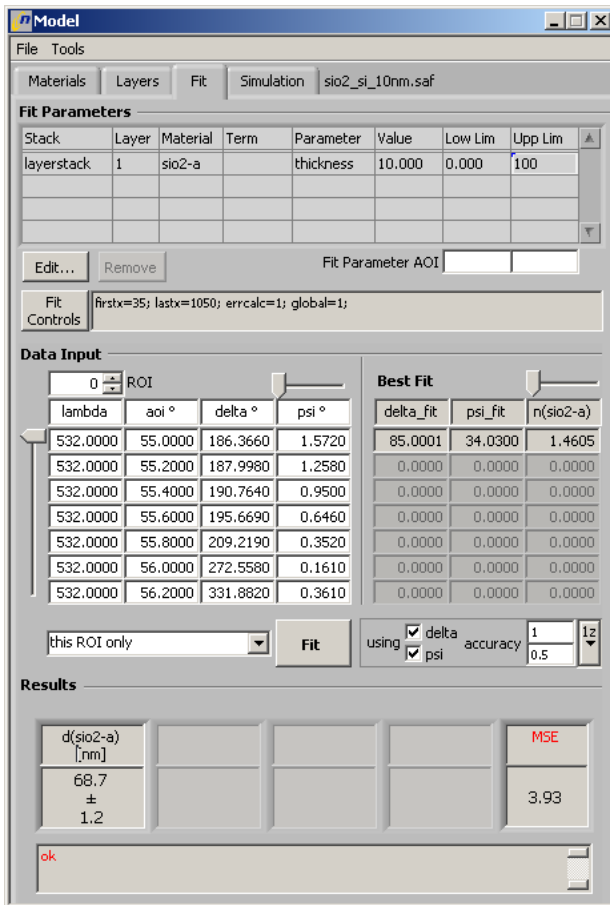

Fig. 4.4-6
- The selected lines appear in the window “Model” (see Fig. 4.4-6)